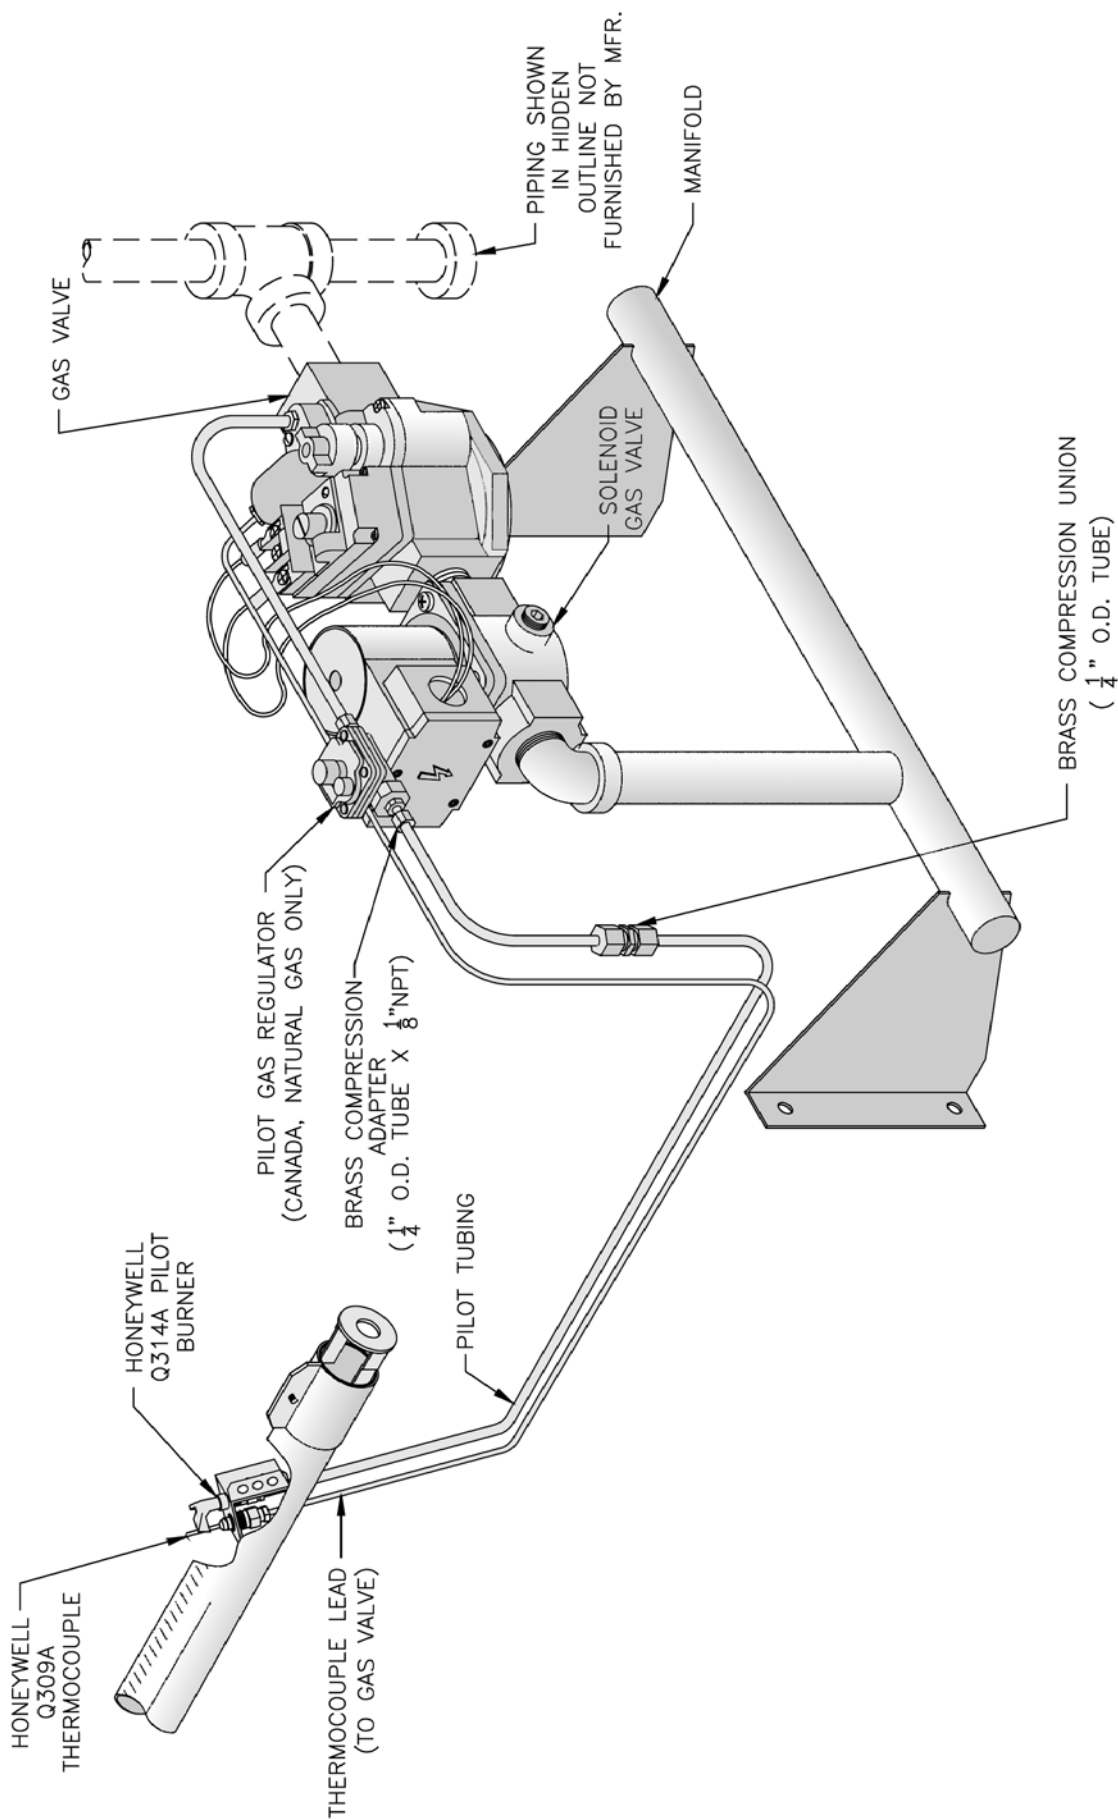

Figure 10: Schematic Gas Piping, 24V Standing Pilot, 806H - 807HE
1. Install Gas Control Assembly on Manifold. See Figure 10. Use thread (joint) compound (pipe dope) resistant to action of liquefied petroleum gas.
2. Install pilot burner piping and controls. See Figure 10.